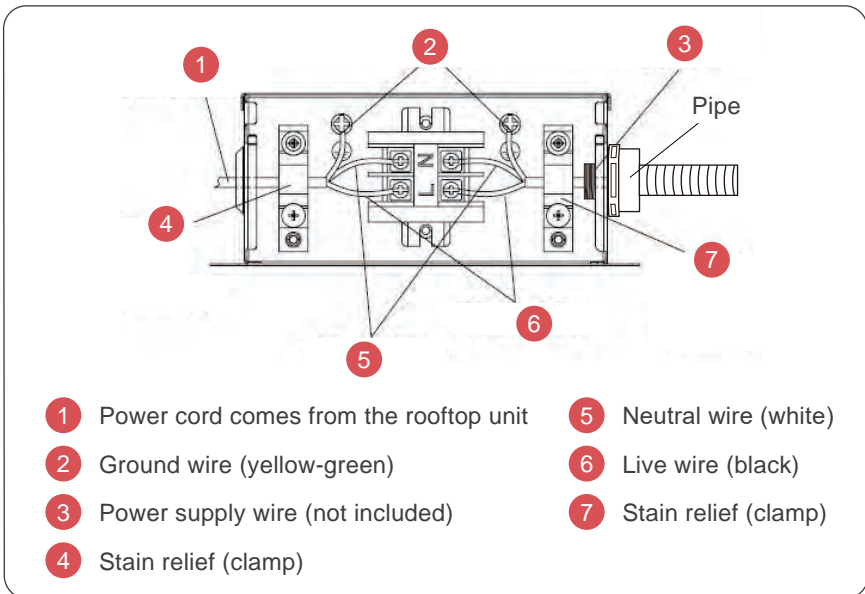

Figure 13
**CAUTION:** Connect black wire to black wire, white wire to white wire, and the ground wire to earth. (see Figure 13)